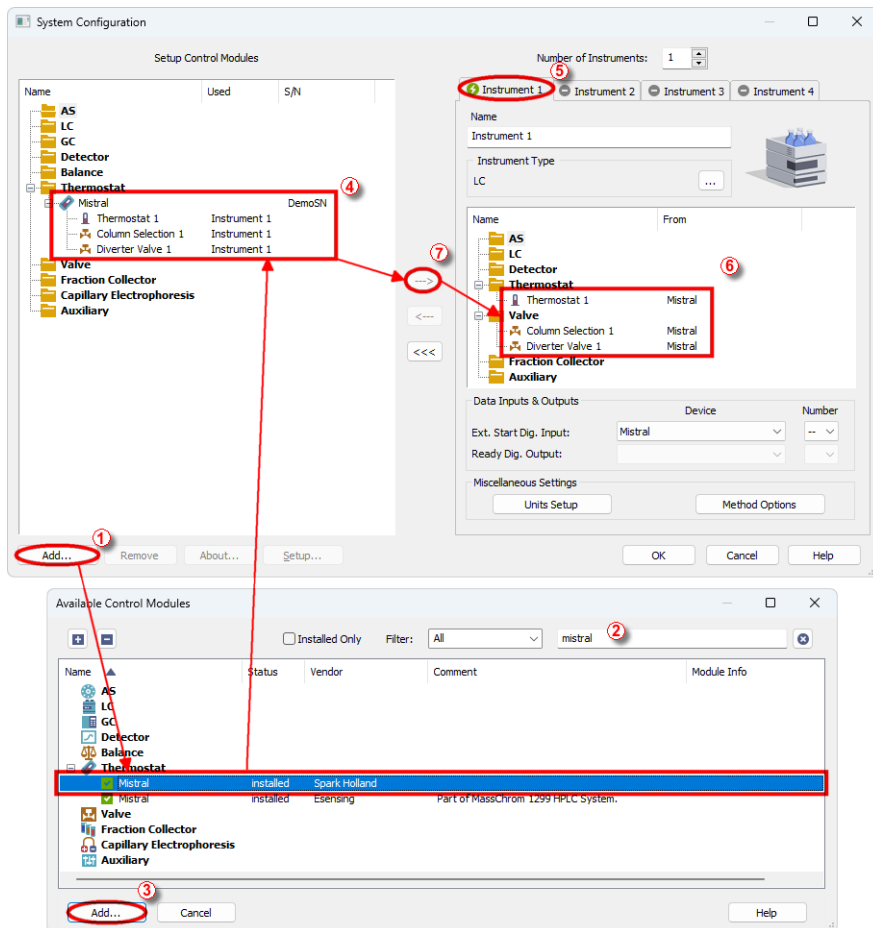

Fig. 3: System Configuration
- Press the **Add** button ① (see Fig. 3 on pg. 5.) to invoke the **Available Control Modules** dialog.
- You can specify the searching filter ② to simplify the finding of the driver.
- Select the **Mistral** sampler and press the **Add** ③ button.